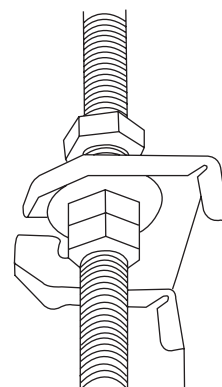

Fig. 4.10
7. Mount the indoor unit with at least two people to lift and secure it. Insert suspension bolts into the unit's hanging holes. Fasten them using the washers and nuts provided. (See Fig. 4.10)